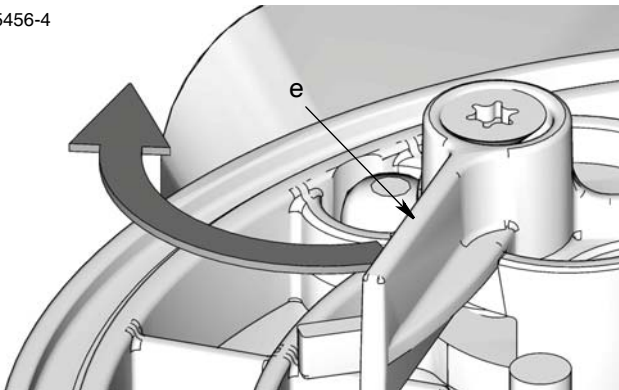

FIG. 14
position while installing stirring paddle (FIG. 14).
- a. Verify low level paddle (e) is in full out position as shown in FIG. 14.